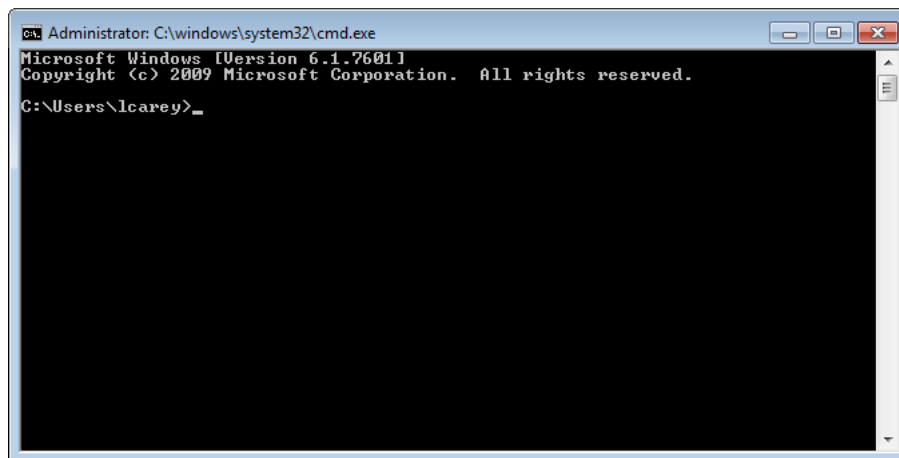

FIG. 11 Windows command interpreter (Cmd.exe)
2. Type **cmd** in the *Open* field and click **OK** to open an instance of the Windows command interpreter - "Cmd.exe" (FIG. 11):